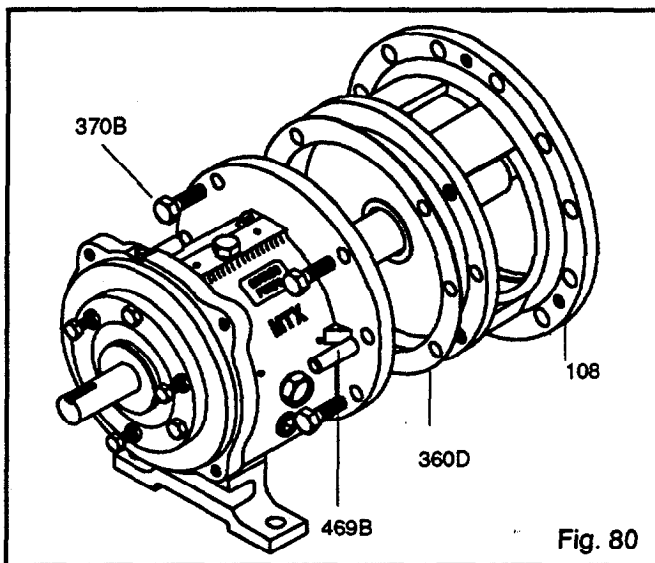

Fig. 80
- Place manila gasket (360D) on frame (228) (Fig. 80).
- Install frame adapter (108), onto frame assembly. Align bolt holes and dowel locations with those on frame (Fig. 80).